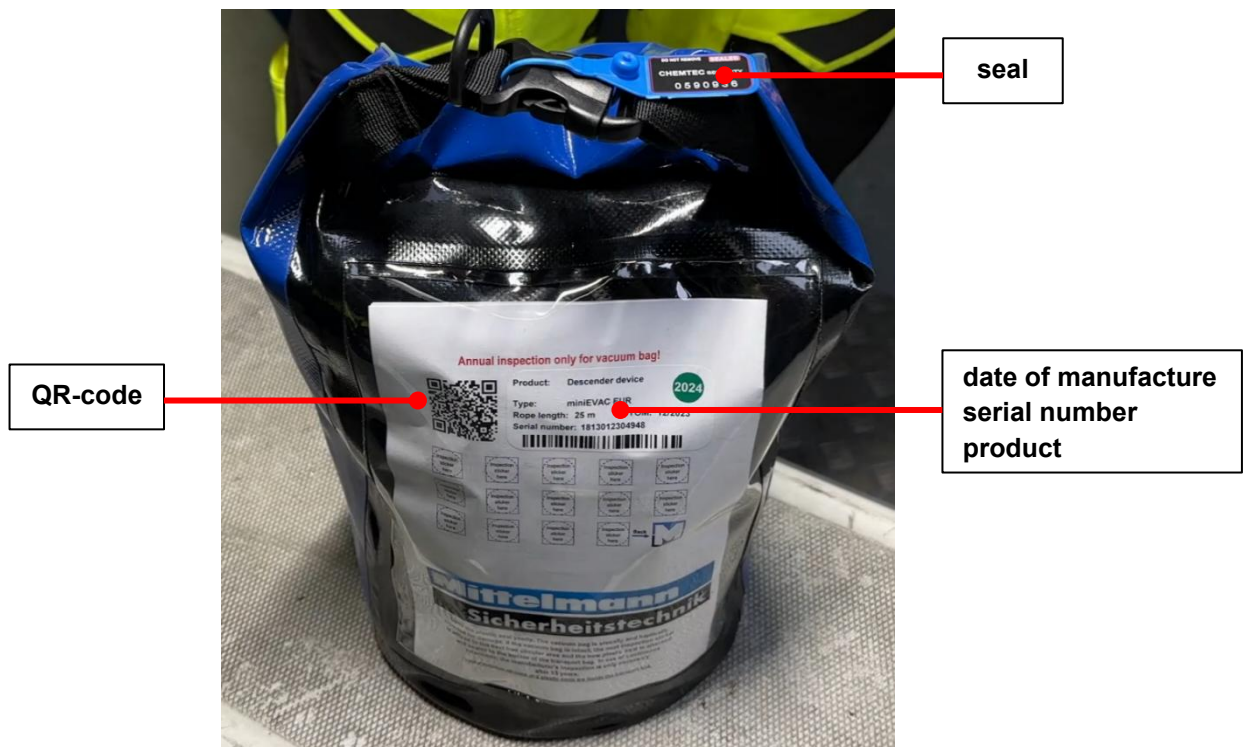

Figure: 3
If the seal (see Figure 3) has been broken, the device must be replaced.
- The vacuum packaging must be inspected by the manufacturer or a qualified expert as required, but at least once a year. This inspection is to be documented in the supplied inspection instructions, which are also available as a QR code on the transport bag (see Figure 3). In addition, the next inspection date should be clearly noted in the inspection log (see Figure 3).
- The seal is opened once a year (see Figure 3, seal position). The vacuum packaging is then visually and hepatically inspected for possible damage. If the packaging is intact, the revision sticker is affixed to the next available surface. If it remains intact, a manufacturer inspection is not required for 15 years.
- The nameplate with the date of manufacture and the serial number is clearly visible on the outside of the transport bag and on the descender (see Figure 3).